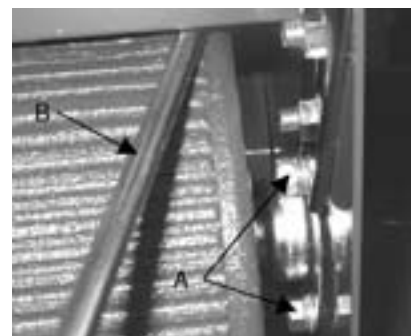

Figure 12. Blade levelling.
3. Loosen the three nuts (A) Figure 12 on the right hand drum bearing housing to allow rear drum level to be adjusted.
6. With a large screw driver in between the rear roller and the frame from the rear of the mower Figure 12 (B), lever the frame upwards until the blade is level.
7. Retighten the three nuts (A) to secure the blade in it's level position.